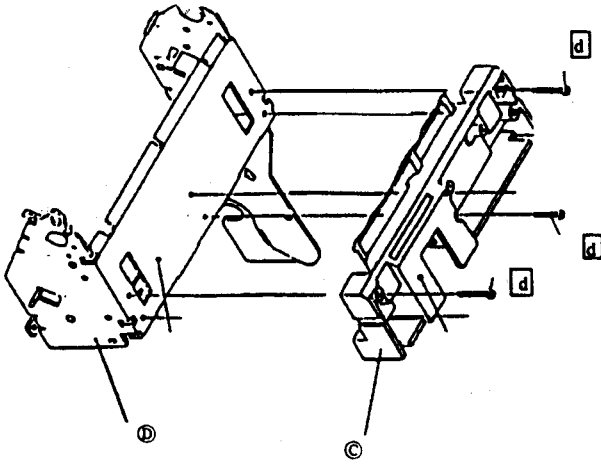

Figure 5-3. Stamp Paper Guide Removal
- With the Upper Frame Assembly C, upside-down, position the Stamp Paper Guide Assembly, D, and replace the three screws - ① (see Figure 5-3, above).